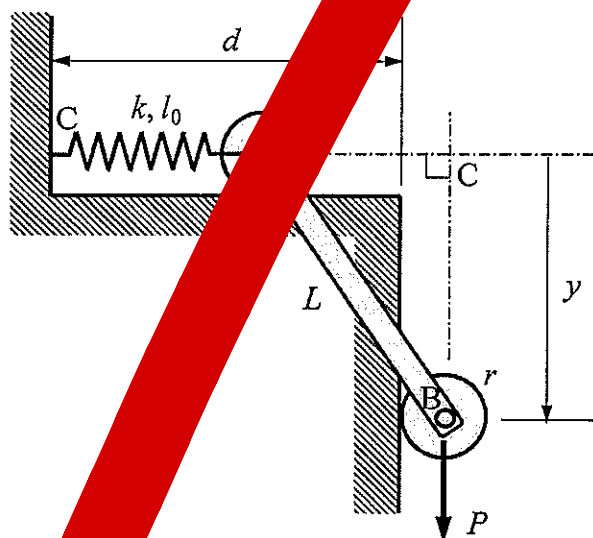

Figure 1
1. This paper contains **FOUR (4)** questions and comprises **SIX (6)** pages.
- 1(a) Figure 1 shows a rigid uniform bar AB of length L supported on rigid rollers pin-jointed at the bar ends A and B. A spring of stiffness k and free length l_0 connects the end A of the bar to a rigid wall at C. A load P acts at the end B of the bar as shown. Ignore friction at all the joints and the weights of the parts.